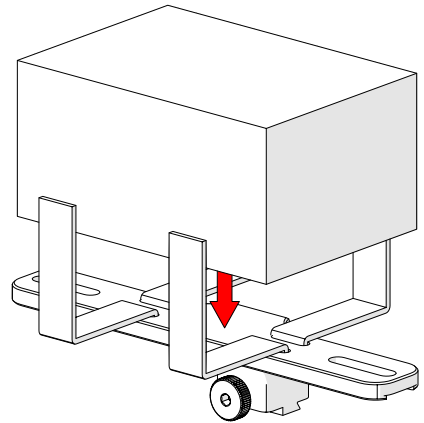

Fig. 189 - Place preamp and wrap velcro
2. Centre and place the preamp on the bracket wrapping the velcro around the preamp (Fig. 189).